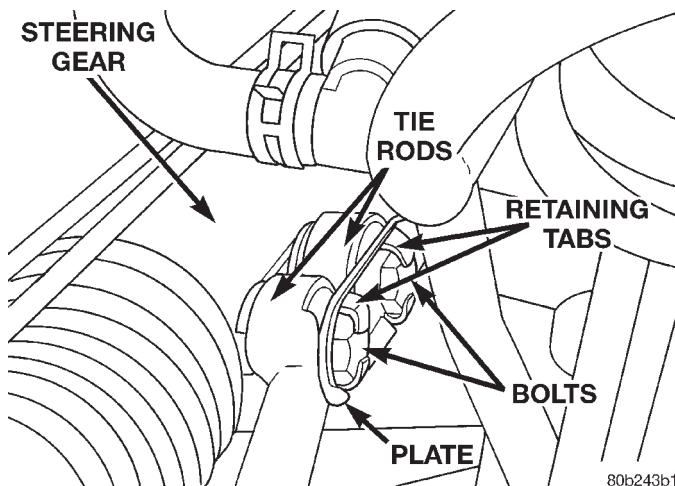

Fig. 9 Tie Rod Attachment Bolt Retaining Tabs
(11) Bend back the retaining tabs on the mounting plate for the tie rod to steering gear mounting bolts (Fig. 9).